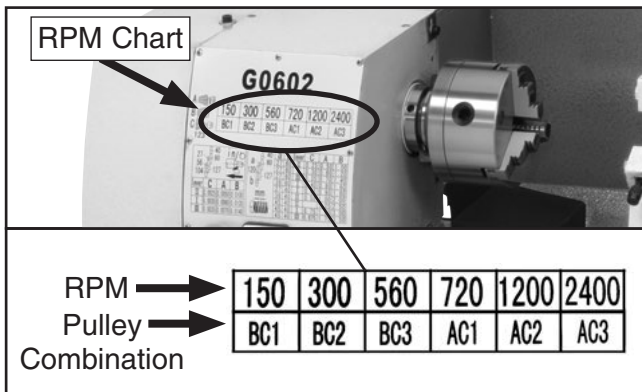

Figure 57. G0602 RPM chart.
2. Refer to the RPM chart in **Figure 57** to determine the pulley combination you need to achieve a spindle speed of 150 RPM—it is **BC1**.